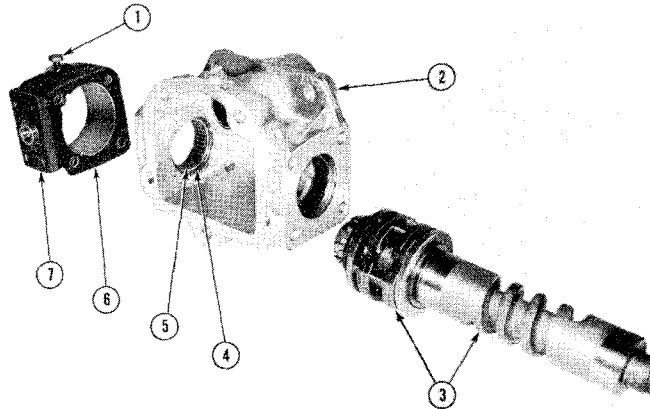

Figure 8-17
Unlock actuator retainer screw (1, Fig. 8-17) and remove actuator housing (7) and gasket (6). Slide out cam and actuator (3) from actuator end of housing (2). Remove retaining rings (4) and press out bearings (5) if damaged. Discard gasket (6).